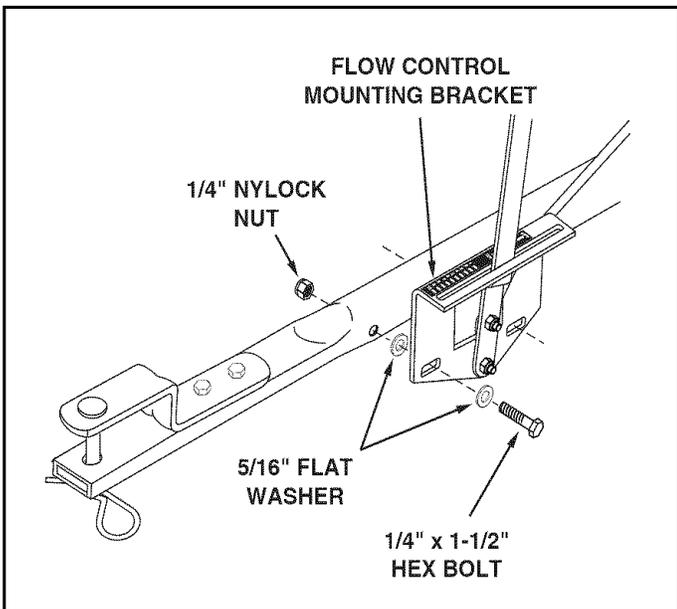

FIGURE 10
- Assemble the flow control mounting bracket to the hitch tube using two 1/4" x 1-1/2" hex bolts, four 5/16" flat washers and two 1/4" nylock hex nuts as shown in figure 10. **Do not tighten at this time.**